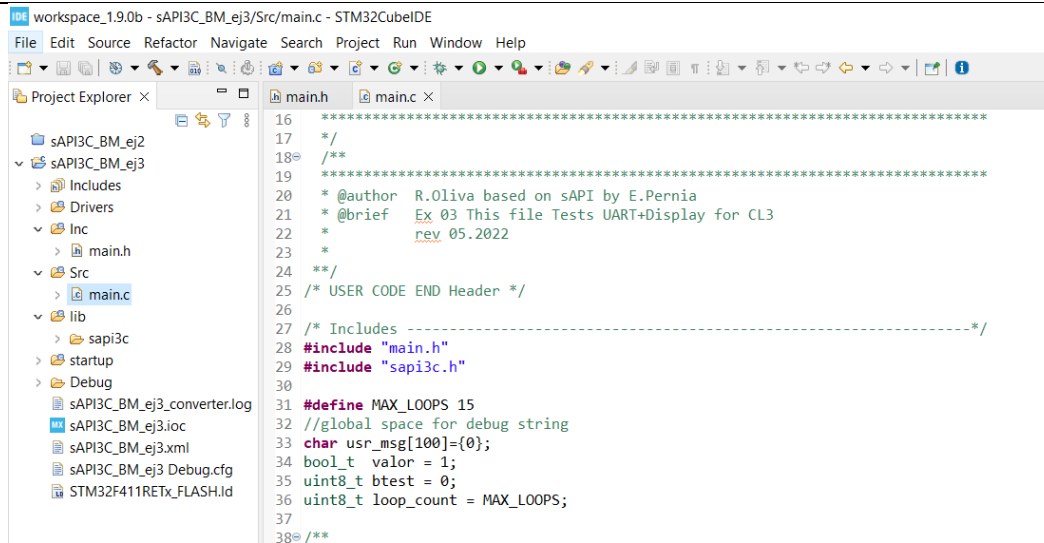
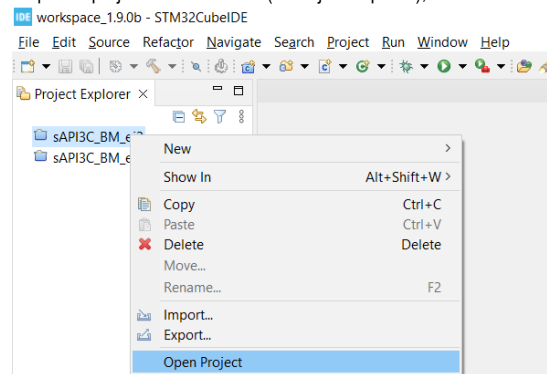
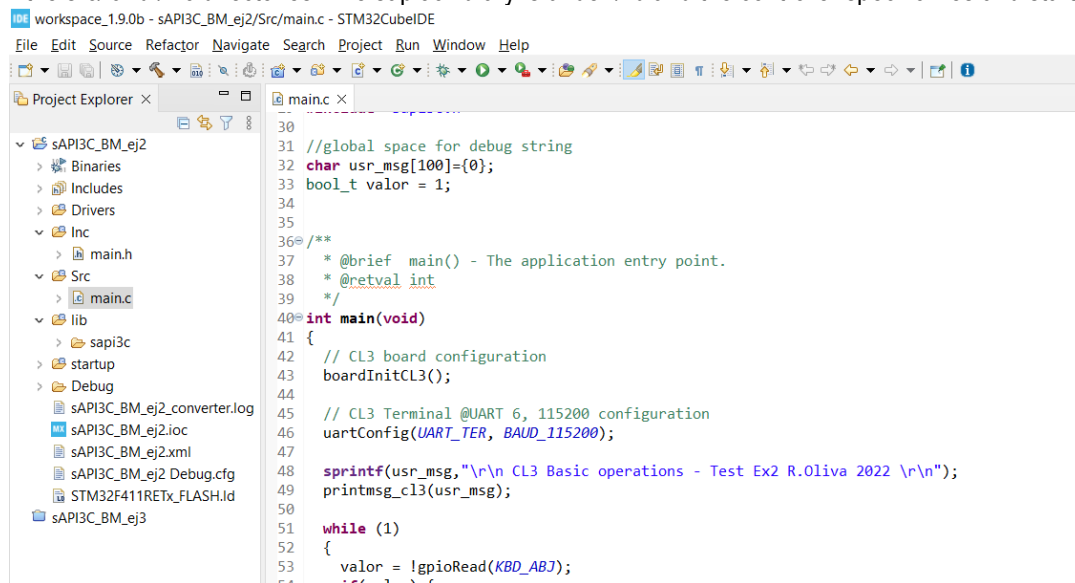

Figure 9 – STM32CubeIDE imported project initial structure (in Project Explorer), and file content of one of the CL3 Examples
Figure 10 – Right click on Project Explorer to open/close a project on STM32CubeIDE
Figure 11 – CL3 Example 2 Structure in STM32CubeIDE
the left pane can be expanded to observe the file structure of the example as in Figure 9. Once Imported, the examples can be opened or closed by right-clicking on the Project Explorer as in Figure 10.
**3.a Example 2 (sAPI3C\_BM\_ej2) :** This simple program simply blinks the OLED general purpose on-board LED. Open the sAPI3C\_BM\_ej2 example as in Figure 10, and expand the directory structure as shown in Figure 11. The upper-layer user defined programs are in the src/ and /inc directories. The sapi3c library is under /lib and the controller specific files and startup code.